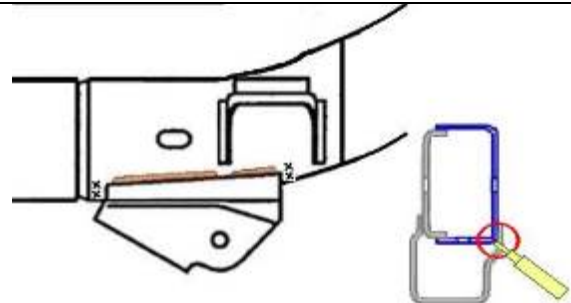

Figure 3 – Step 4 Hammering Locations
4. Using a 3/16" flat punch and a 12-16 oz. hammer, hammer on the locations identified with an "X" in Figure 3.